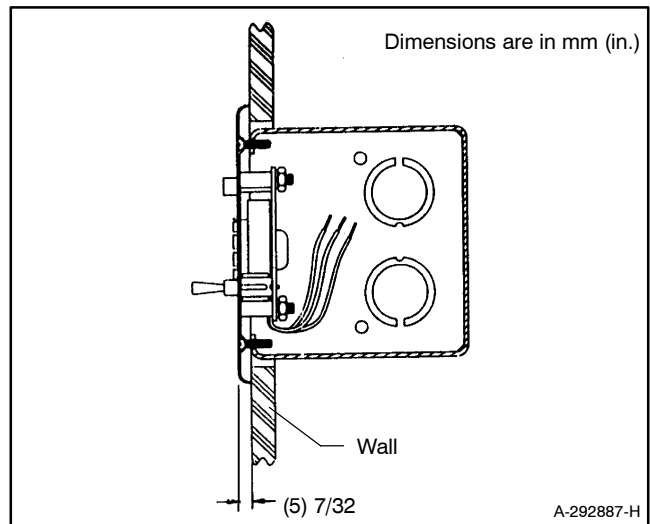

Figure 6 Electrical Box Mounting
- 3.1 Mount a two-gang electrical box (not supplied) in a location selected for the audiovisual alarm(s). Mount the electrical box(es) flush with the surrounding wall surface. See Figure 6.